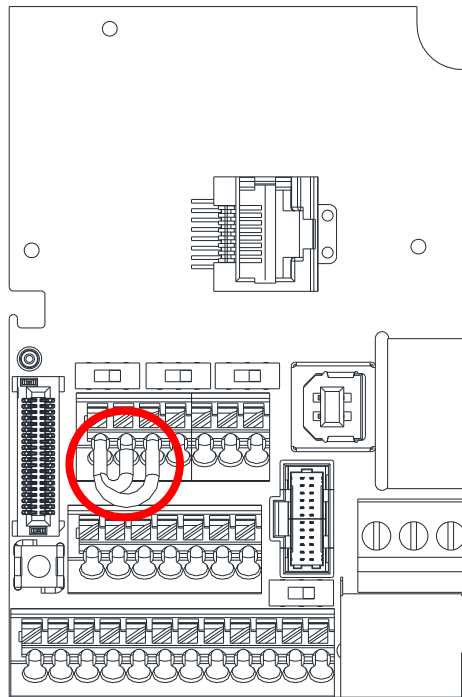

Fig.17-2
- 17-3-1. The internal circuit diagram of the safe control loop is shown as Fig.17-2.
- 17-3-2. The terminals of the safe control loop +24V-S1-S2 are short-circuited together with jumper wire at the factory, see the red circle marked in Fig. 17-2.